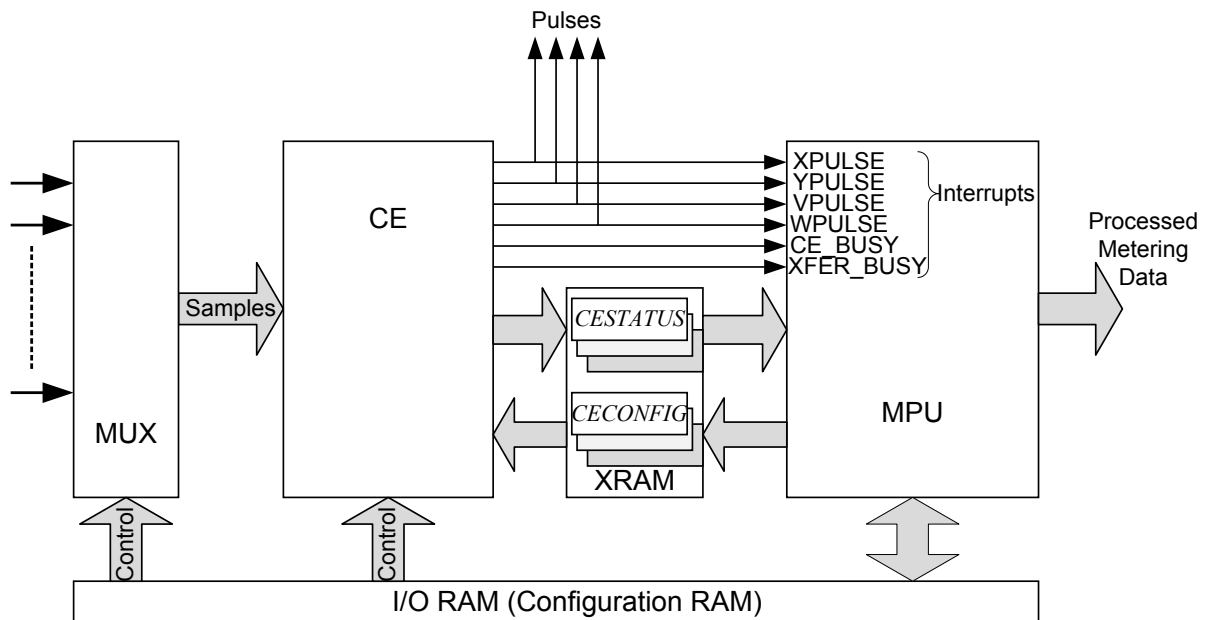

Figure 26: MPU/CE Data Flow
The data flow between the Compute Engine (CE) and the MPU is shown in Figure 26. In a typical application, the 32-bit CE sequentially processes the samples from the ADC inputs, performing calculations to measure